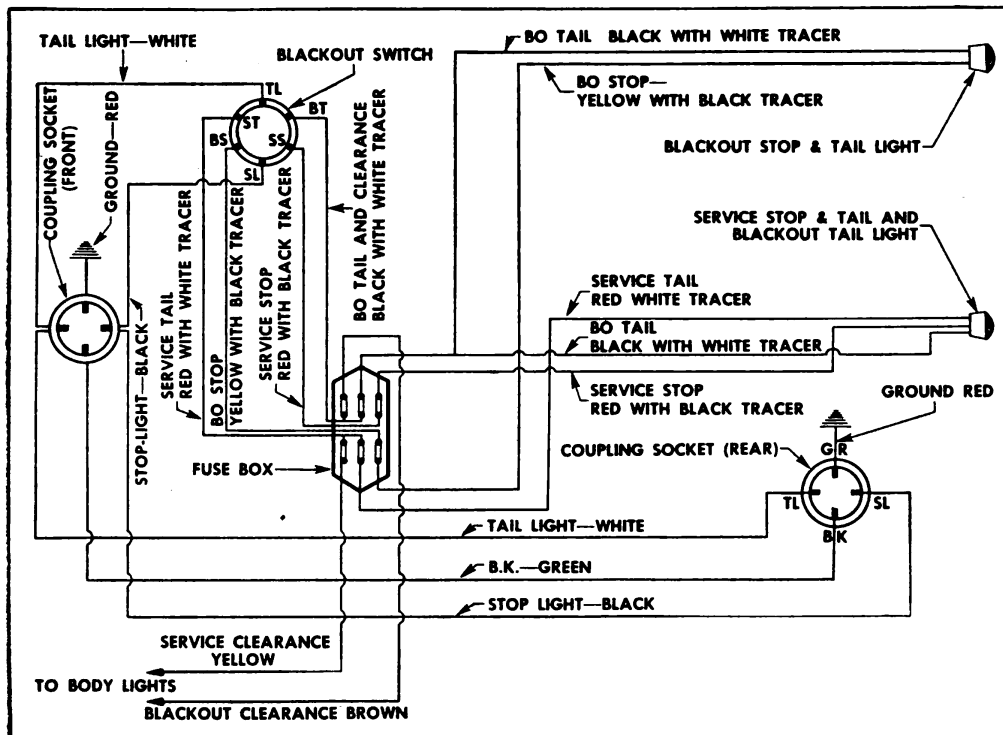

FIGURE 51. WIRING DIAGRAM—SEMI-TRAILER.
1. GENERAL.—a. The general electrical circuit diagram shown in Figs. 51 and 52 illustrates all of the electrical circuits used on this vehicle. With this diagram, the various circuits can be traced and wiring replacements made. All electrical units are shown in their relative positions. Each wire in the electrical system is of a distinctive color. A key to these colors will be found on the circuit diagram.